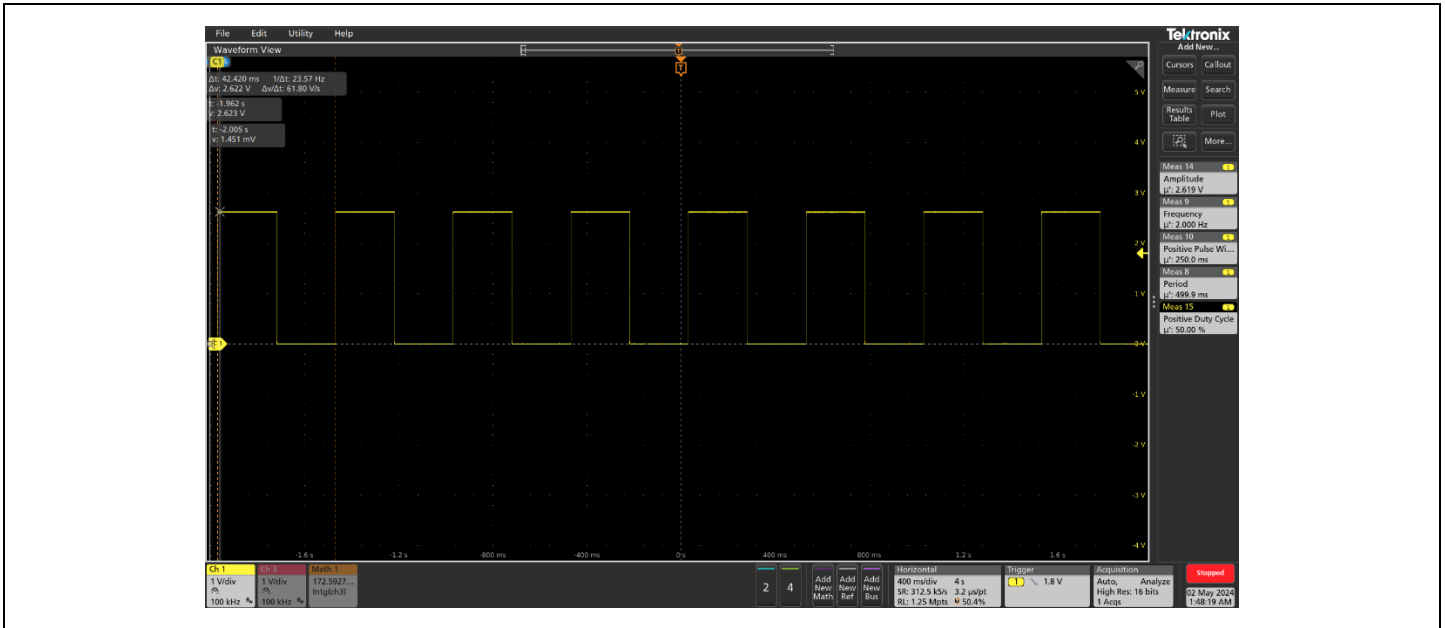

Figure 24 Generated PWM output
- 6. Generated PWM signal can also be observed from an oscilloscope by reading the signal from the user LED as seen in Figure 24. It confirms that the user LED blinks at 2 Hz with 50% duty cycle.